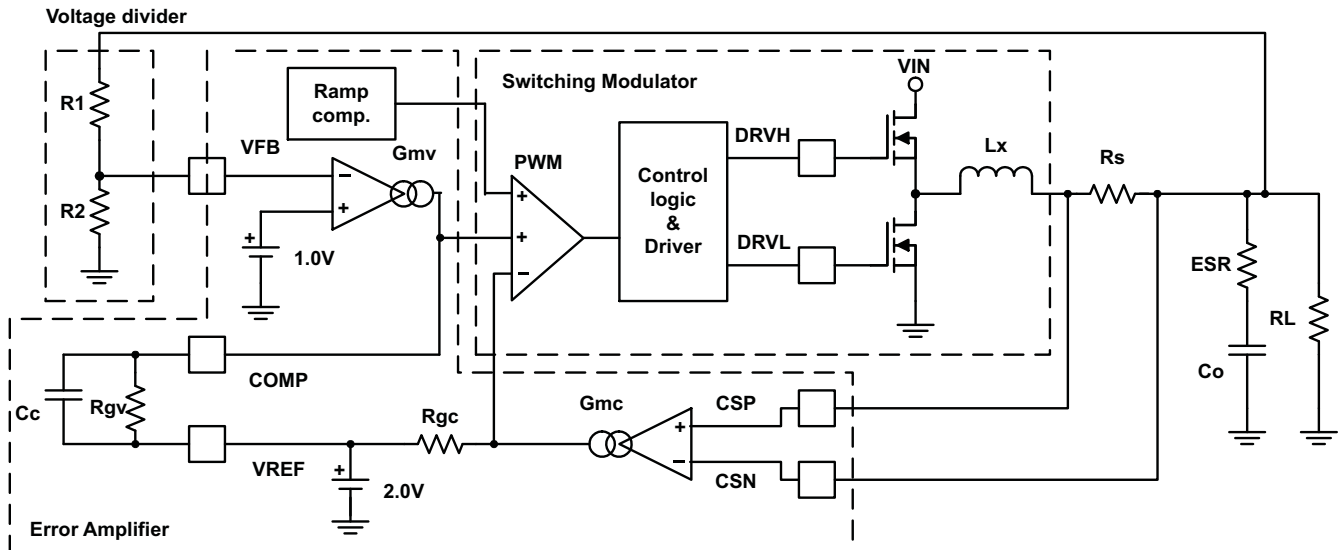
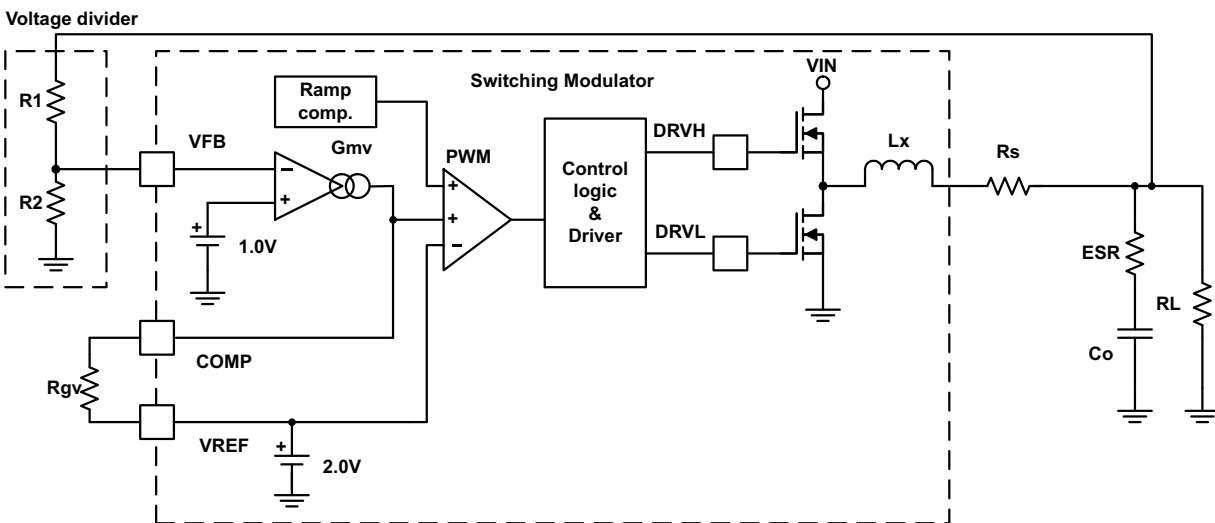

Figure 44. Simplified Current Mode Functional Blocks
Figure 45. Simplified D-CAP Mode Functional Blocks
A buck converter using TPS51220 consists of linear circuits and a switching modulator. Figure 44 and Figure 45 show basic scheme.
1. Determine output voltage dividing resistors (R1 and R2: shown in Figure 44) using the next equation